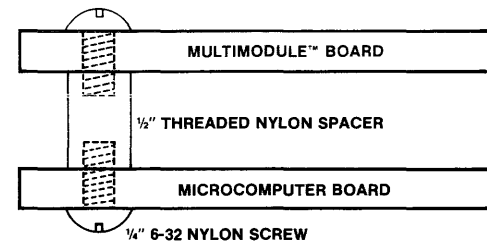

Figure 2-4. Mounting Technique
- With a non-metal 1/4 inch x 6/32 screw, secure the 1/2 inch plastic spacer to the host iSBC microcomputer as shown in figure 2-4.